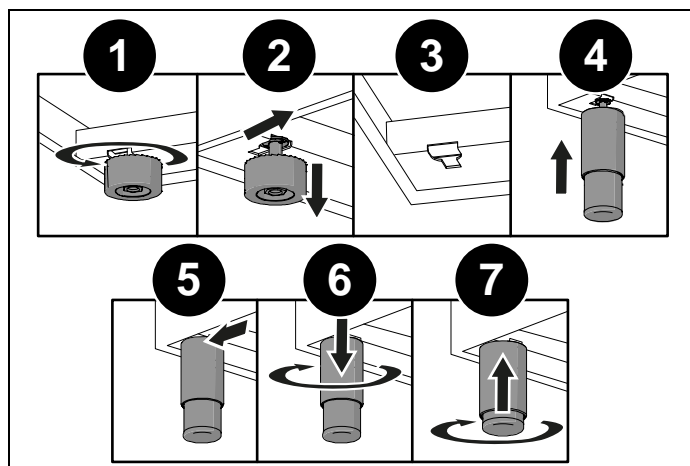

Fig. 4
When lowering the appliance, do not maintain the pressure on the feet (Fig. 4). Use a shim underneath the base or a pallet to avoid tilting the cooker.
- remove the supports (1 and 2, Fig. 4),
- fit the feet into the keyhole in the underside of the appliance (3 and 4, Fig. 4),
- screw the feet down until they are securely fixed to the base (5 and 6, Fig. 4),
Adjust the feet to the correct height (7, Fig. 4).